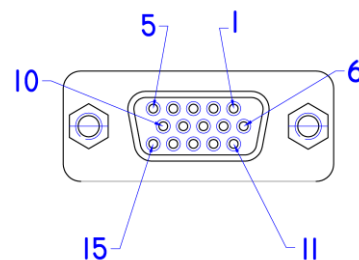

fig 7 - 4
- See figure 7 - 4 and table 7 - 2 for the pinning of CON G.